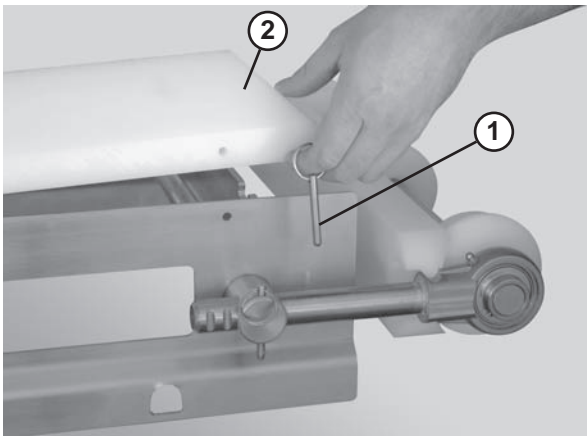

Figure 48
1. Remove the pull pins (Figure 48, item 1) that connect the guide (Figure 48, item 2) to the frame.